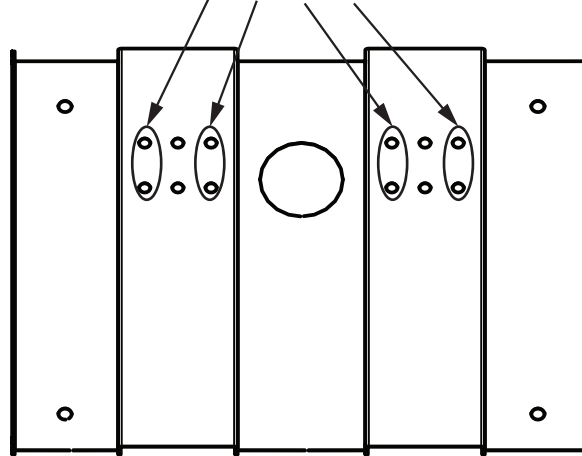

Figure 14 Attach the Kiosk to the base plate
2. Secure the Kiosk onto the base plate using the 8 of the 12 base plate bolts in the holes shown in Figure 14.